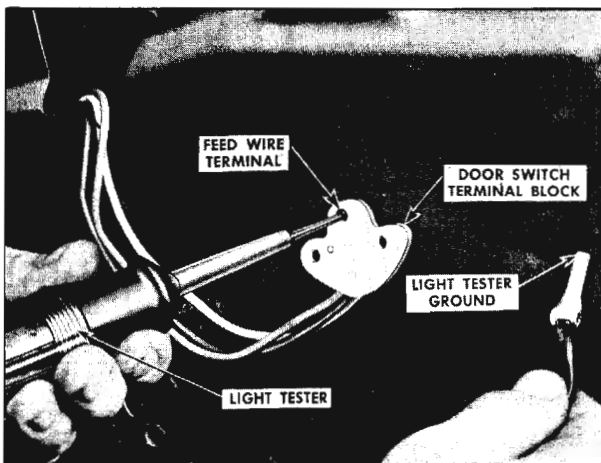

Fig. 16-153 Checking at Window Switch
1. Connect one light tester lead to feed terminal of switch block and ground other tester lead to body metal. (Fig. 16-153)